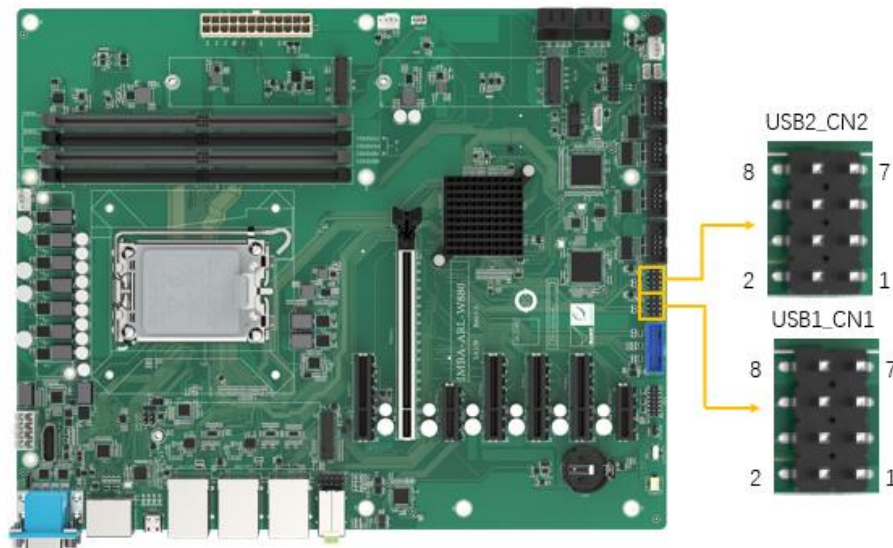

Figure 3-24: Internal USB 2.0 Connector Locations
**CN Location:** See Figure 3-24